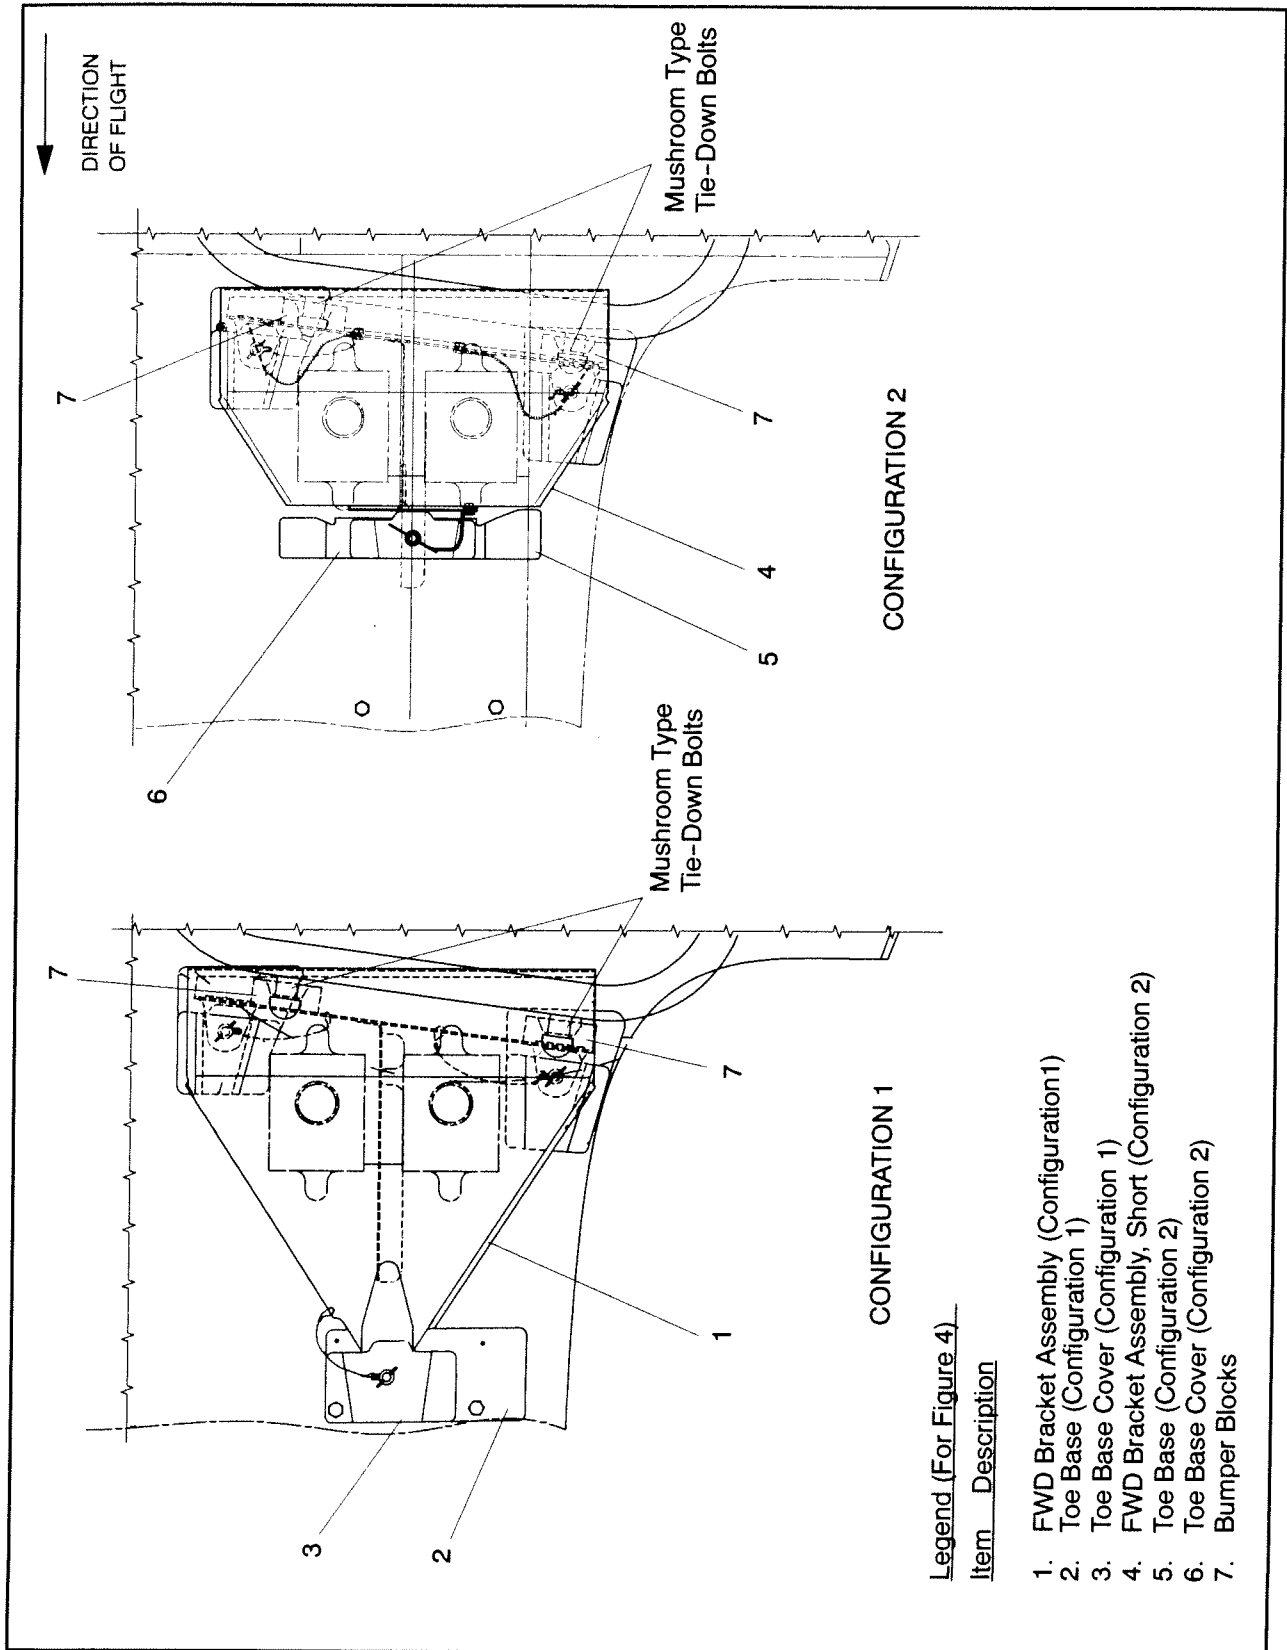

Figure 4 FWD Bracket Assembly Configurations
- d) Insert litter mushroom type tie-down bolts (4) into FWD bracket assembly (1, Configuration 1) or the FWD bracket assembly, short (4, Configuration 2) mounting holes. Refer to Figure 4.